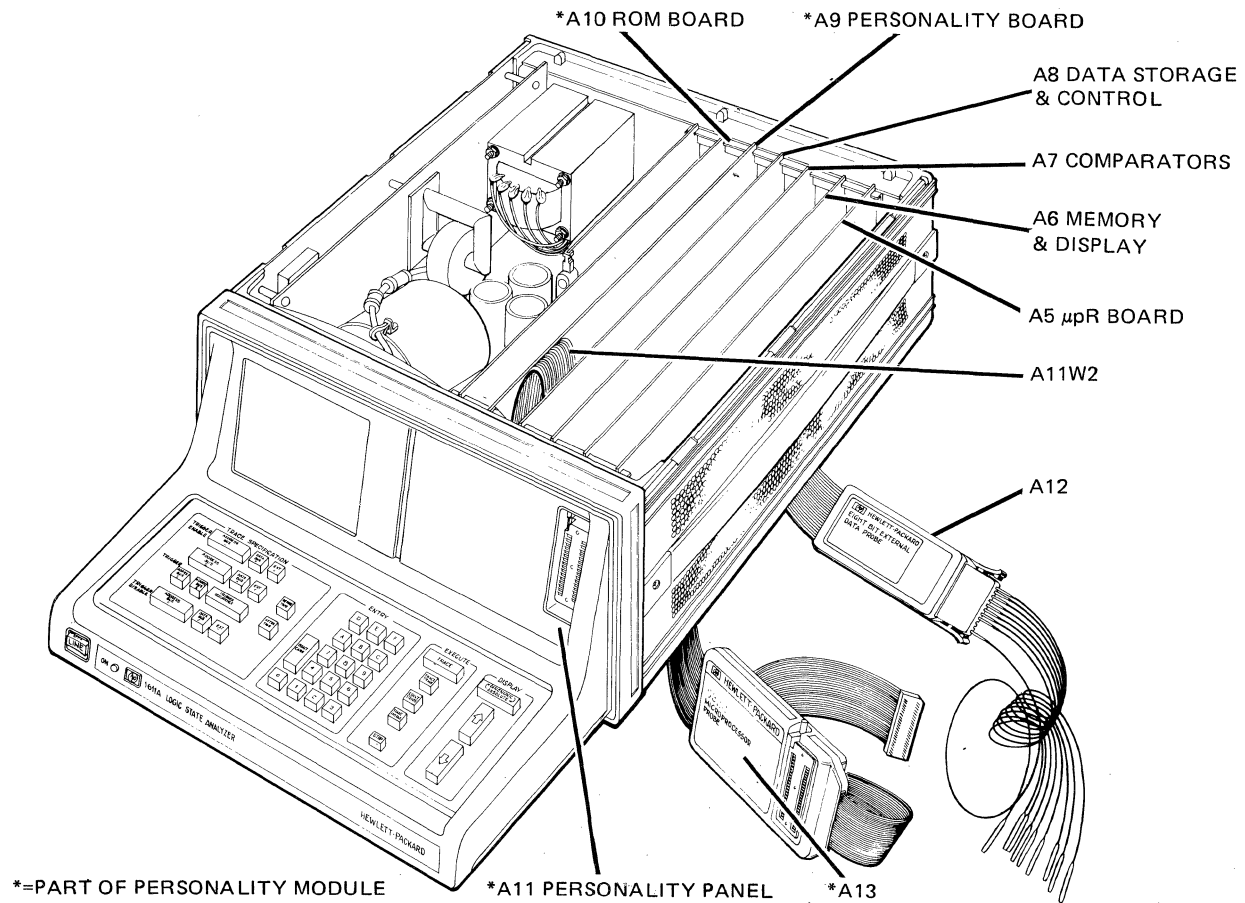

Figure 2-1. Model 1611A Assembly Locations
2-3. Figures 2-1 and 2-2 are provided to facilitate component identification.
c. Loosen captive screw on rear of 1611A top cover. Remove top cover and disconnect ribbon cable A11W2 from A9 (see figure 2-1).
k. Install A10 Option A85 ROM Board and A9 Option A85 Personality Board onto Main Board A1 as shown in figure 2-1.
m. Reinstall A5, A6, A7, and A8 boards onto Main Board A1 as shown in figure 2-1.